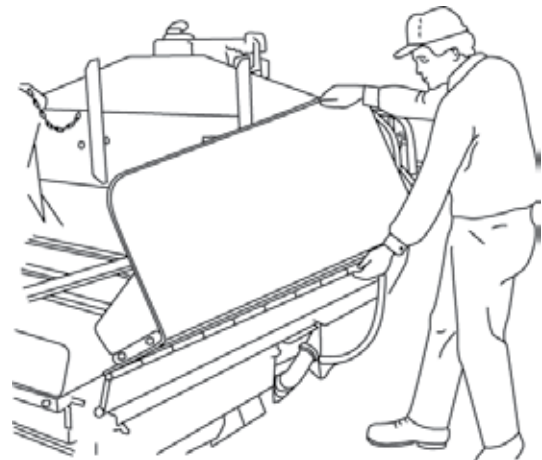

Figure 5-9. Side Wings
2. Grab top of wings and pull out 5 to 6 in. (13 to 15 cm), then pull bottom handle out till side wing knuckles out (**Figure 5-9**).